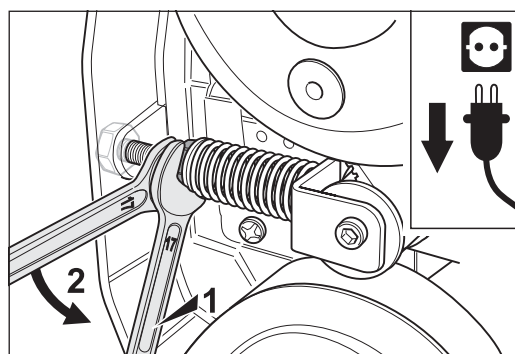

Fig. 84 Carefully fasten the two nuts.
- 5 Carefully fasten the two nuts (fig. 84).